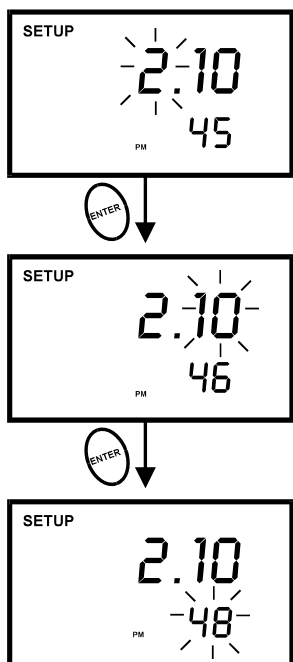

Figure 36 - P5.0: Select time (pH 310 meter only)
11. Press the ENTER key to confirm the date and move to “hour” selection. The “hour” digits will flash. See Figure 36 (next page).